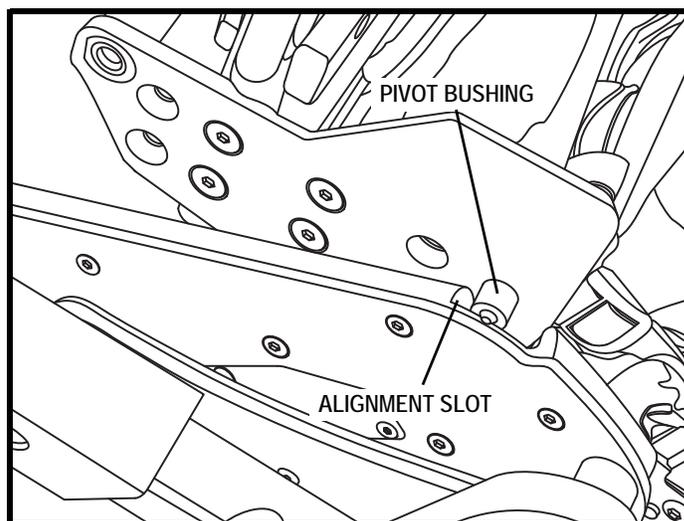

Figure 15. Installation of the Kids FAST Shell Assembly
1. Lower the shell assembly into the mobility base so that the seat pivot bushings enter the alignment slots. **See figure 15.**